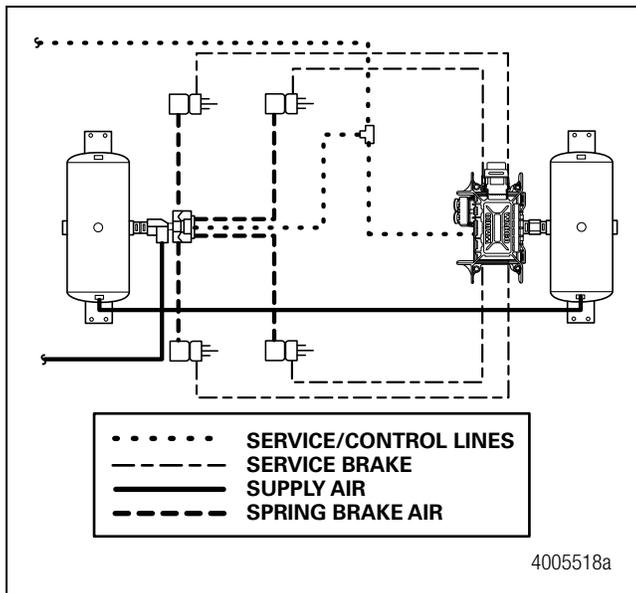

Figure 4
2. Connect the air delivery lines from the service chambers to the ECU/single modulator valve assembly Port 2 (3/8-inch NPTF). Figure 4.
3. Connect the brake service control line to the ECU/single modulator valve assembly Port 4 (3/8-inch NPTF). Figure 4.